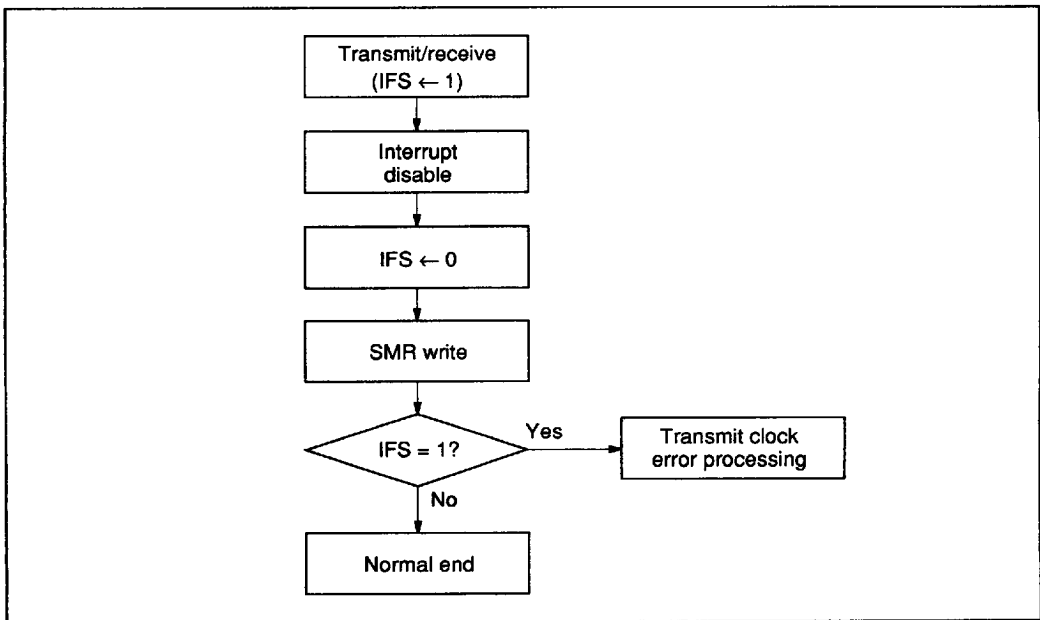

Figure 27 Transmit Clock Error Detection
**An Example of Transmit Clock Error Detection:** The serial interface malfunctions when the transmit clock is disturbed by external noise. In this case, the transmit clock error can be detected by the procedure shown in figure 27.